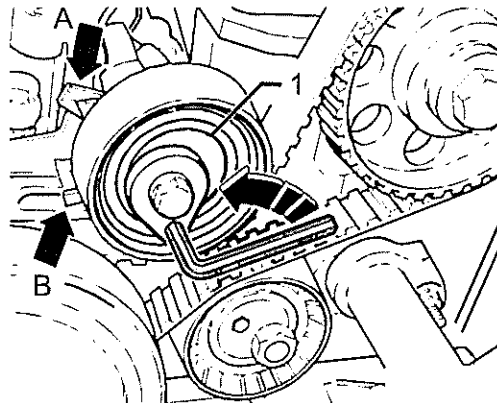

Fig 42 Tensioning roller - pointers
187 Check the position of the pointers (see Fig 42 (A)). The pointers should be opposite each other. If pointers are not opposite each other, however the front pointer is located within the metal contour located behind it, then this is permissible.